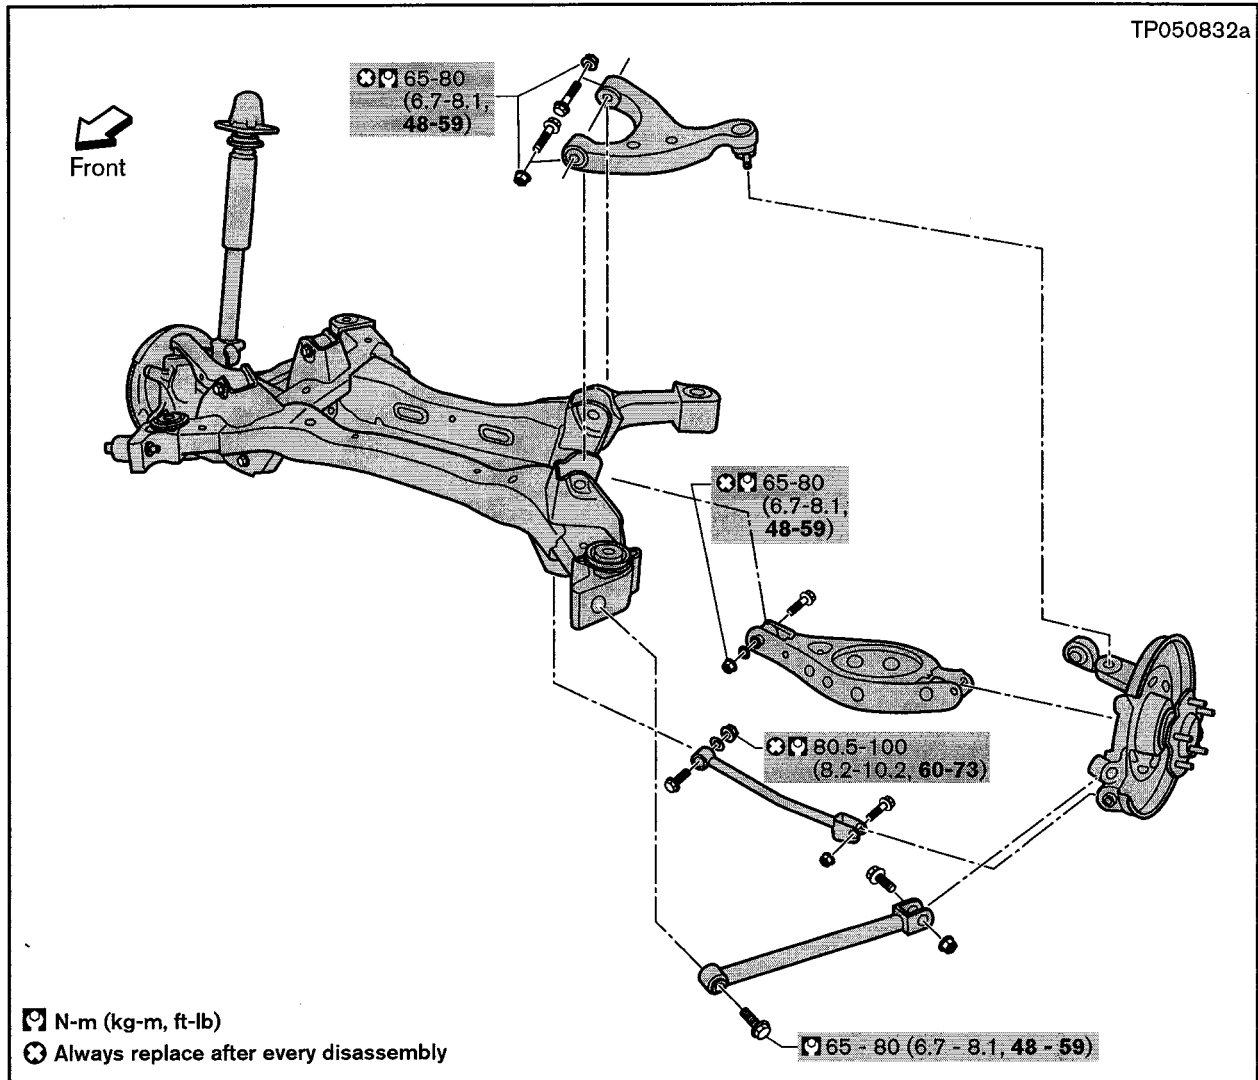

Figure B10
d. Tighten the suspension components nuts/bolts to the highlighted (shaded) torque specifications at this time (see Figure B10). You'll tighten the remaining bolts/nuts later.